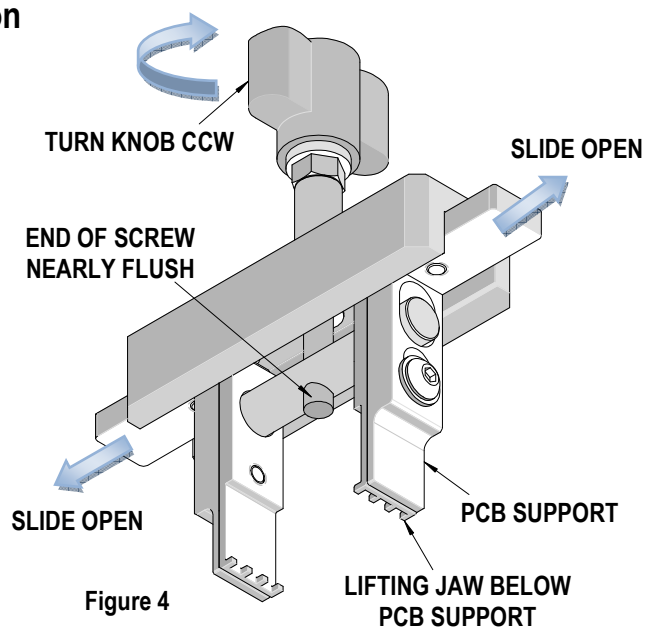

Figure 4
1. Slide the PCB Supports and Lifting Jaws fully open. See Figure 4. Turn the Lifting Screw Knob counter-clockwise (CCW) until the Lifting Jaws are slightly below the PCB Supports. At this point, the end of the Lifting Screw will be nearly flush with the bottom of the Lifting Bar.